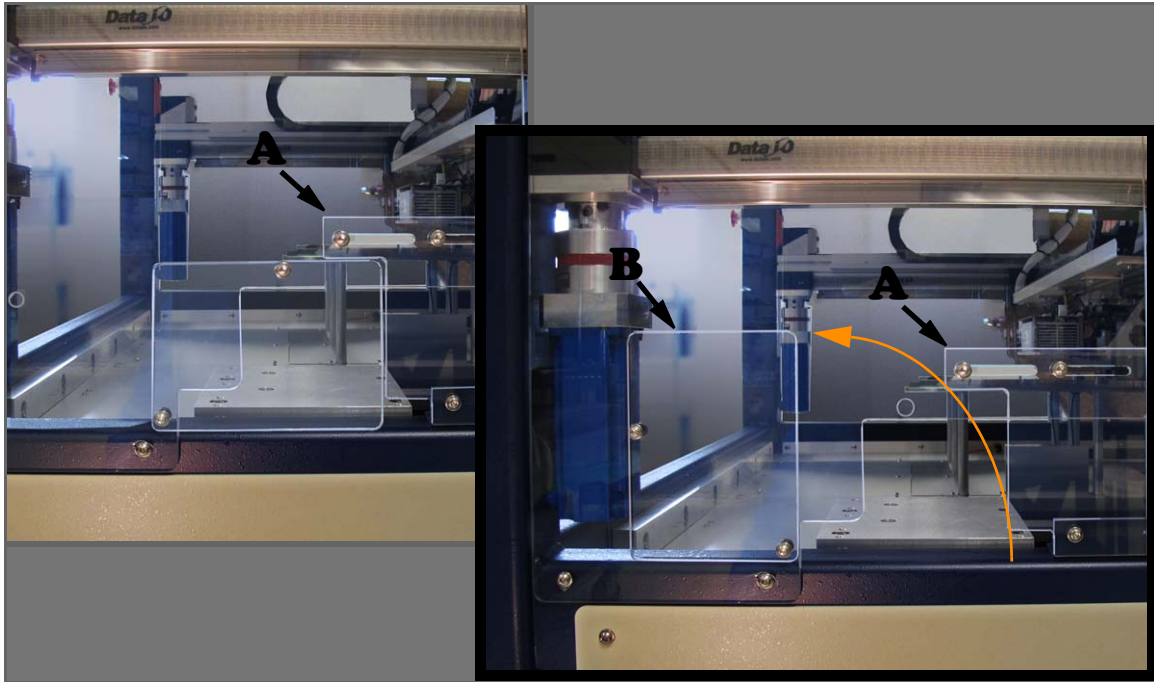

Figure 2-19: To install the Tape Output Module, shield 'A' slides to the right. Shield 'B' rotates counterclockwise 90°.
- 1b. Loosen the screw on the lower left of a rectangular safety shield shown in Figure 2-19 on page 2-23 (4 mm hex key).